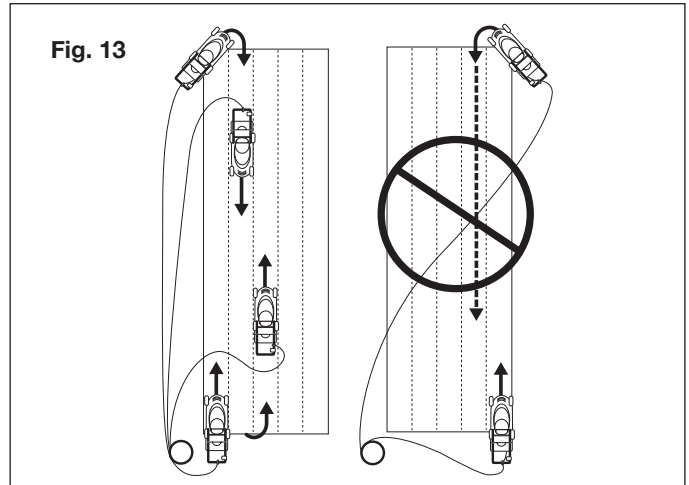

Fig. 13
- Do not mow in a circle. Travel back and forth across the lawn following the path outlined below (Fig. 13).